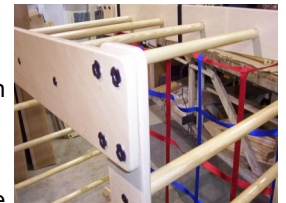

Figure 2
- Attach one end of the top section to the end of one of the side sections putting the bolt / washer through from the inside into the threaded insert as shown in figure 2. Tighten all bolts securely.